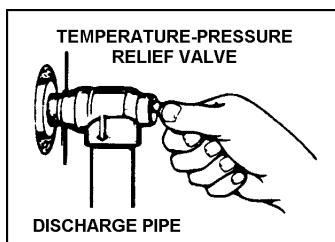

FIGURE 17.
When checking the temperature-pressure relief valve operation, make sure that (1) no one is in front of or around the outlet of the temperature-pressure relief valve discharge line, and (2) that the water discharge will not cause any property damage, as the water may be extremely hot, see Figure 17.